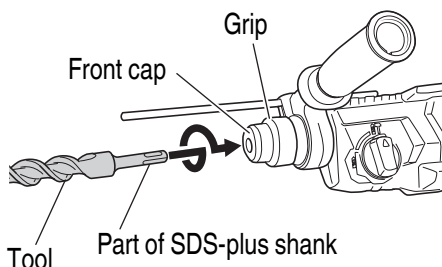

Fig. 1
4. Mounting the tool (**Fig. 1**)
- (1) Clean the shank portion of the tool.
- (2) Insert the tool in a twisting manner into the hole of front cap until it latches itself (**Fig. 1**).
- (3) Check the latching by pulling the tool.